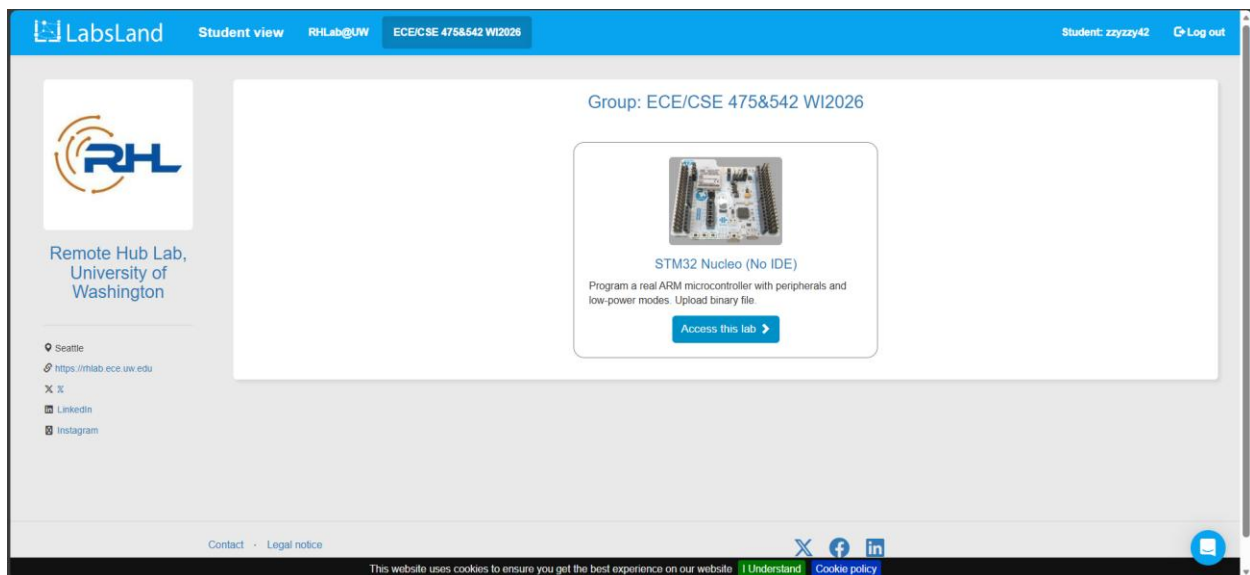

Figure 4
4. You are now a part of the course group, as shown in Figure 4. Now, click the blue icon “Access this lab” to access the STM32 remote lab.